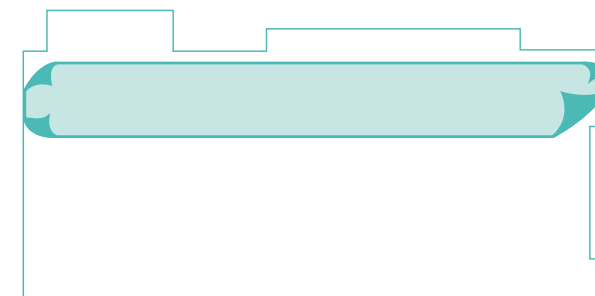

Figure 34 Lining up the first sheet
- > Adjust the lie of the sheet so that the inner edge is parallel with the axis of the room (fig. 34).